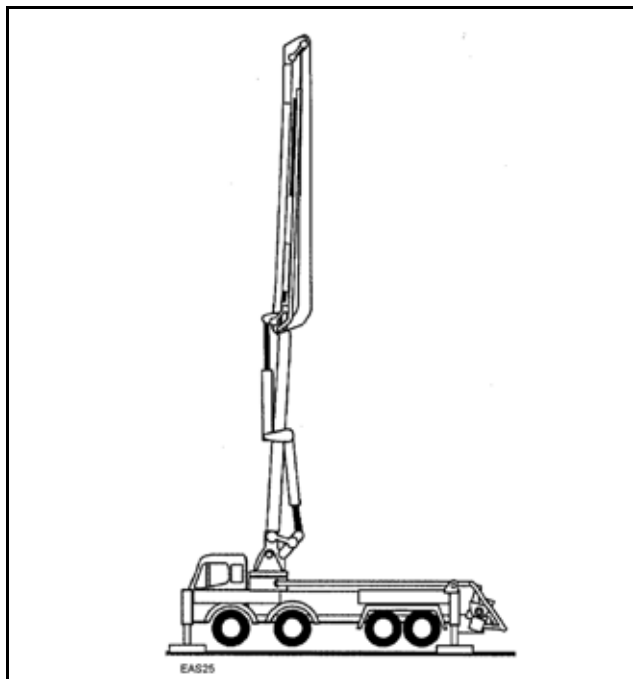

Fig. 549 Sections in vertical position
- ▶ Position both arms vertically (**Fig. 549**).